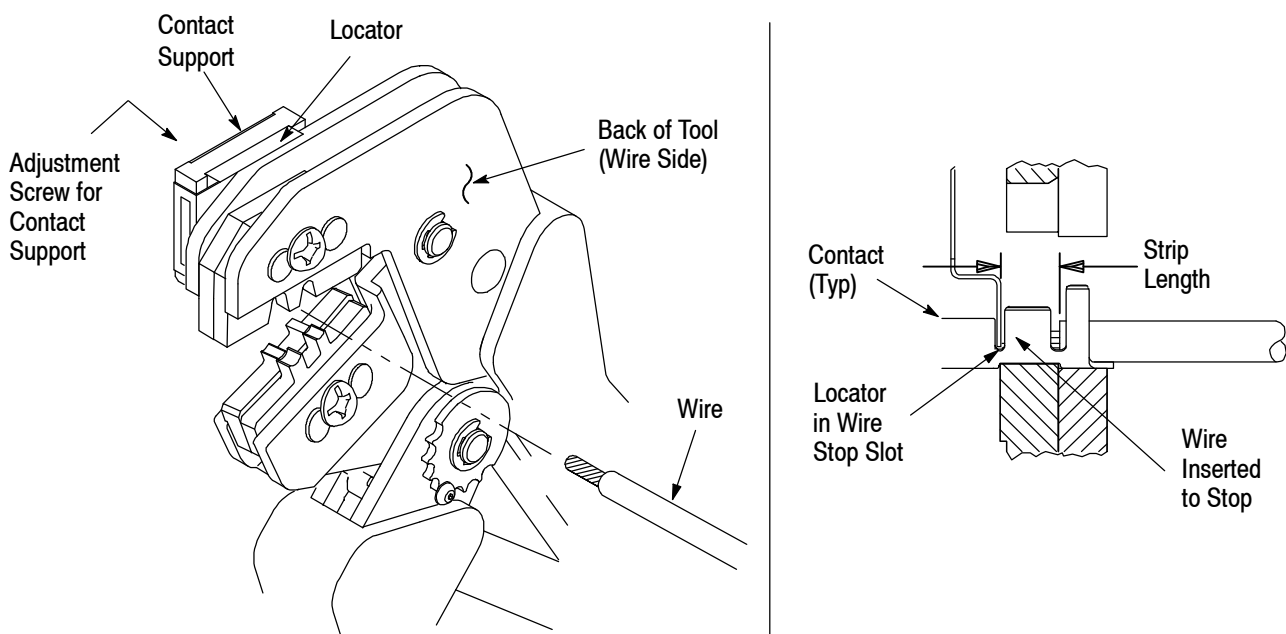

Figure 3
4. CONTACT SUPPORT ADJUSTMENT (Figure 3)
Refer to the table in Figure 1 and select wire of the specified size and insulation diameter. Strip the wire to the length indicated in Figure 1, taking care not to nick or cut wire strands. Select an applicable contact and identify the appropriate crimp section according to the wire size markings on the tool. Refer to Figure 3 and proceed as follows:
3. Position the contact so that the mating end of the contact is on the locator side of the tool, and so that the open “U” of the wire and insulation barrels face the top of the tool. Place the contact up into the nest so that the movable locator drops into the slot in the contact. Refer to Figure 3. Butt the front end of the wire barrel against the movable locator.